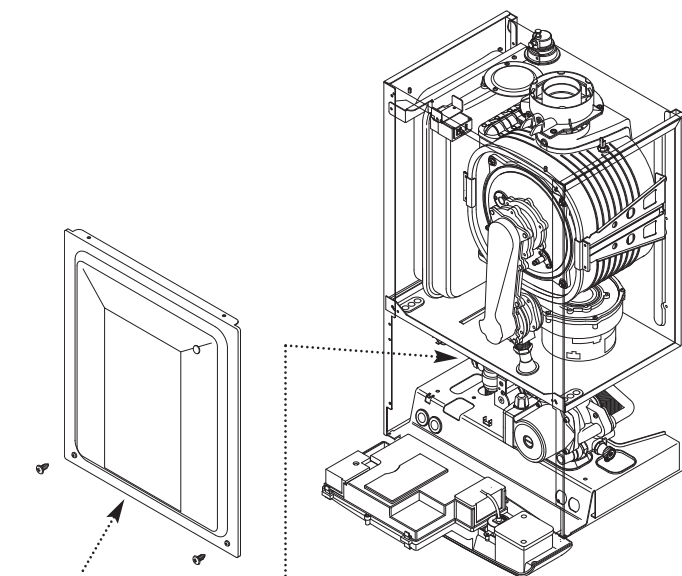

Fig. 63
4. Remove the screws securing the inner door panel. Lift the panel slightly to disengage it from the studs on top of the case (Fig. 63).